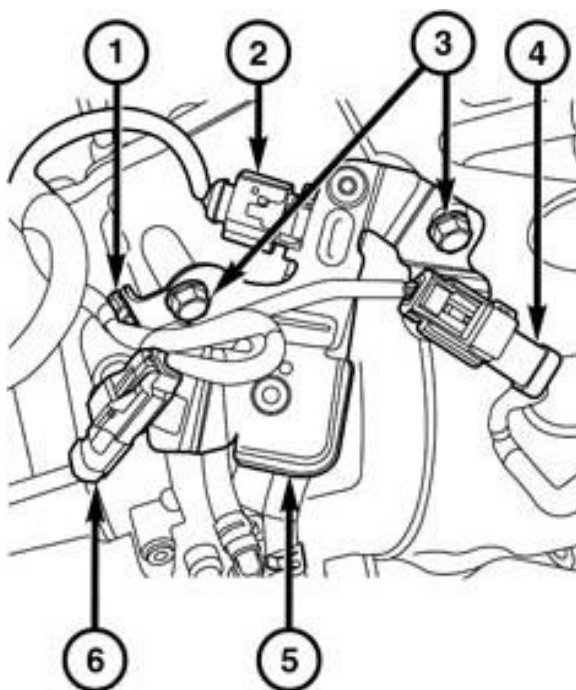

Figure 40 – EGT/CEGT Sensor Connectors
83. Disconnect the Exhaust Gas Temperature (EGT) sensor 1/2 wire harness connector (4) and detach from bracket (5) (Figure 40).
84. Disconnect the Catalyst Exhaust Gas Temperature (CEGT) sensor wire harness connector (6) and detach from bracket (5) (Figure 40).
85. Disconnect the Differential Pressure Sensor (DPS) wire harness connector (2) (Figure 40).
86. Remove the bolts (3) and the DPS sensor with bracket (5) (Figure 40).
25. Install the Differential Pressure Sensor (DPS) and bracket (5) and tighten the bolt (3) to 18 N·m (13 ft. lbs.) (Figure 40).
26. Connect the DPS sensor wire harness connector (2) (Figure 40).
27. Connect the Catalyst Exhaust Gas Temperature (CEGT) sensor wire harness connector (6) and attach to the bracket (5) (Figure 40).
28. Connect the Exhaust Gas Temperature (EGT) sensor 1/2 wire harness connector (4) and attach to the bracket (5) (Figure 40).